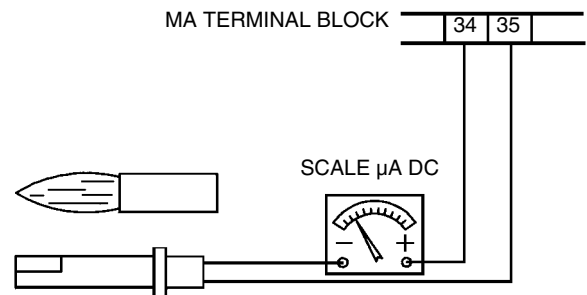

Fig. 18
- Check and clean the detection photoresistor, adjust and, if necessary, replace it (Fig. 18).